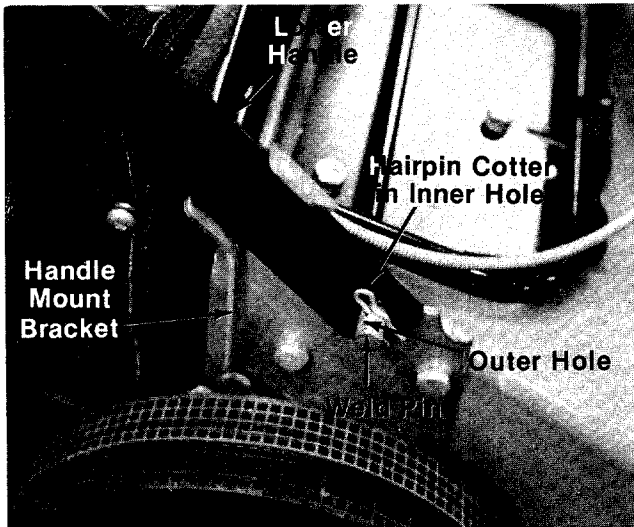

FIGURE 2.
- Place lower handle in position over weld pins in handle mount brackets on deck. Secure by placing two hairpin cotters (C) in inner hole on weld pins. See figure 2.